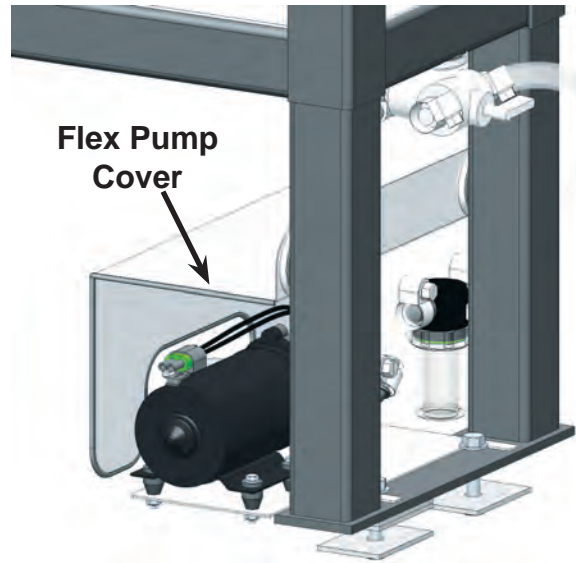

Figure 73. Position Flex Pump Cover over Pump
6. Position the Flex Pump Cover over the pump, attaching the magnets to the tank frame (see Figure 73).